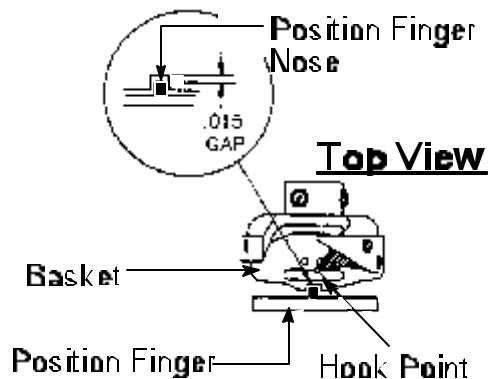

Figure 7
85. Move Position Finger Nose **forward or back** from hook basket allowing enough clearance for thread to pass between easily. See *Figure 7*.